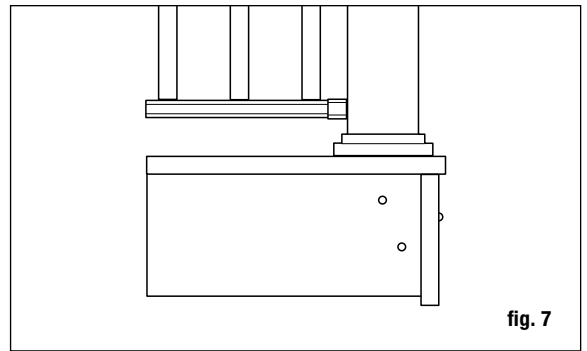

fig. 7
Step 3 Position, plumb with a level, and clamp the stair railing post on the interior face of the stringer. Plumb again. The 4x4 stair railing post should be bolted to the inside of the stringer using two 1/2"x6" galvanized carriage bolts. Corner posts use a third carriage bolt inserted through the adjacent joist (fig. 7). Ground level posts should be set in concrete.